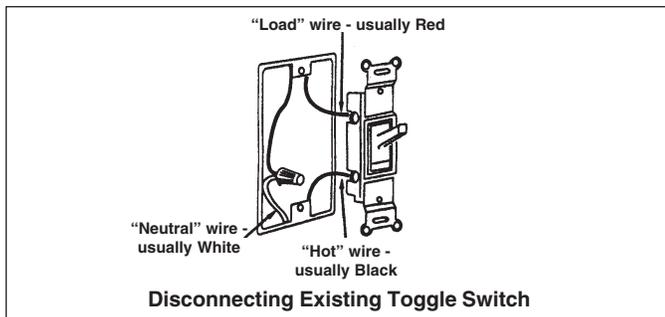

Figure 1
2. In existing installations, remove wall plate and switch. There should be three wires in the box as follows: (See Figure 1)